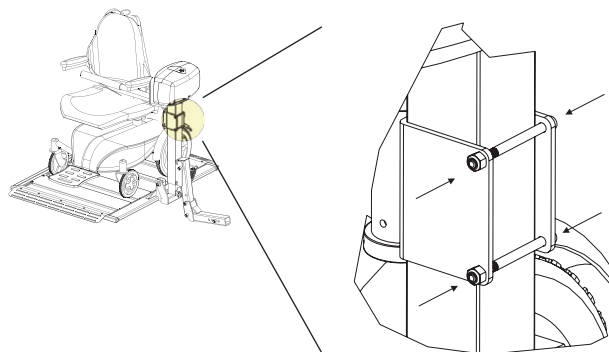

Figure 6-12
3. Loosen the two bolts and nuts in the back of the vertical tube. *See Figure 6-12.* Allow the arm assembly to lower until the arm contacts the seat.